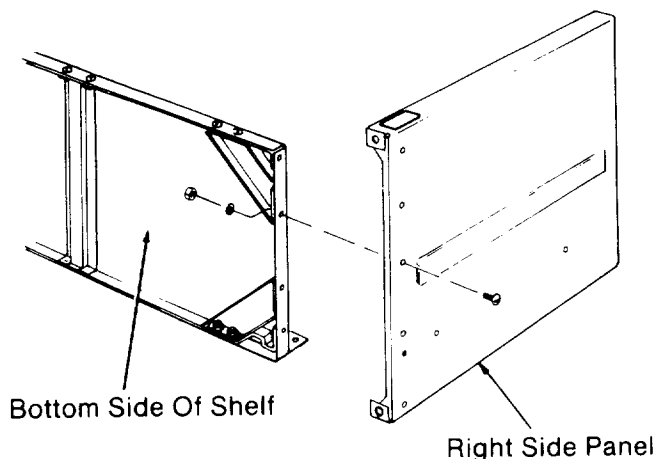

Fig. 18
18. Place the *right side panel* on the *right side of the shelf*. The *spacer* should be on the inside of the cabinet. (Figure 18)
19. Put bolts through the four holes along the bottom edge of the *right side panel*. Put a lockwasher and hex nut on each bolt and tighten using a 7/16 inch wrench or socket. (Figure 18)